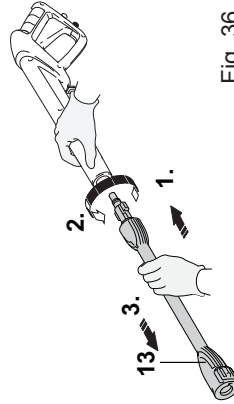

Fig. 36
9. Press the accessory towards the spray gun (16) and turn it anti-clockwise to remove it. (Fig. 36).